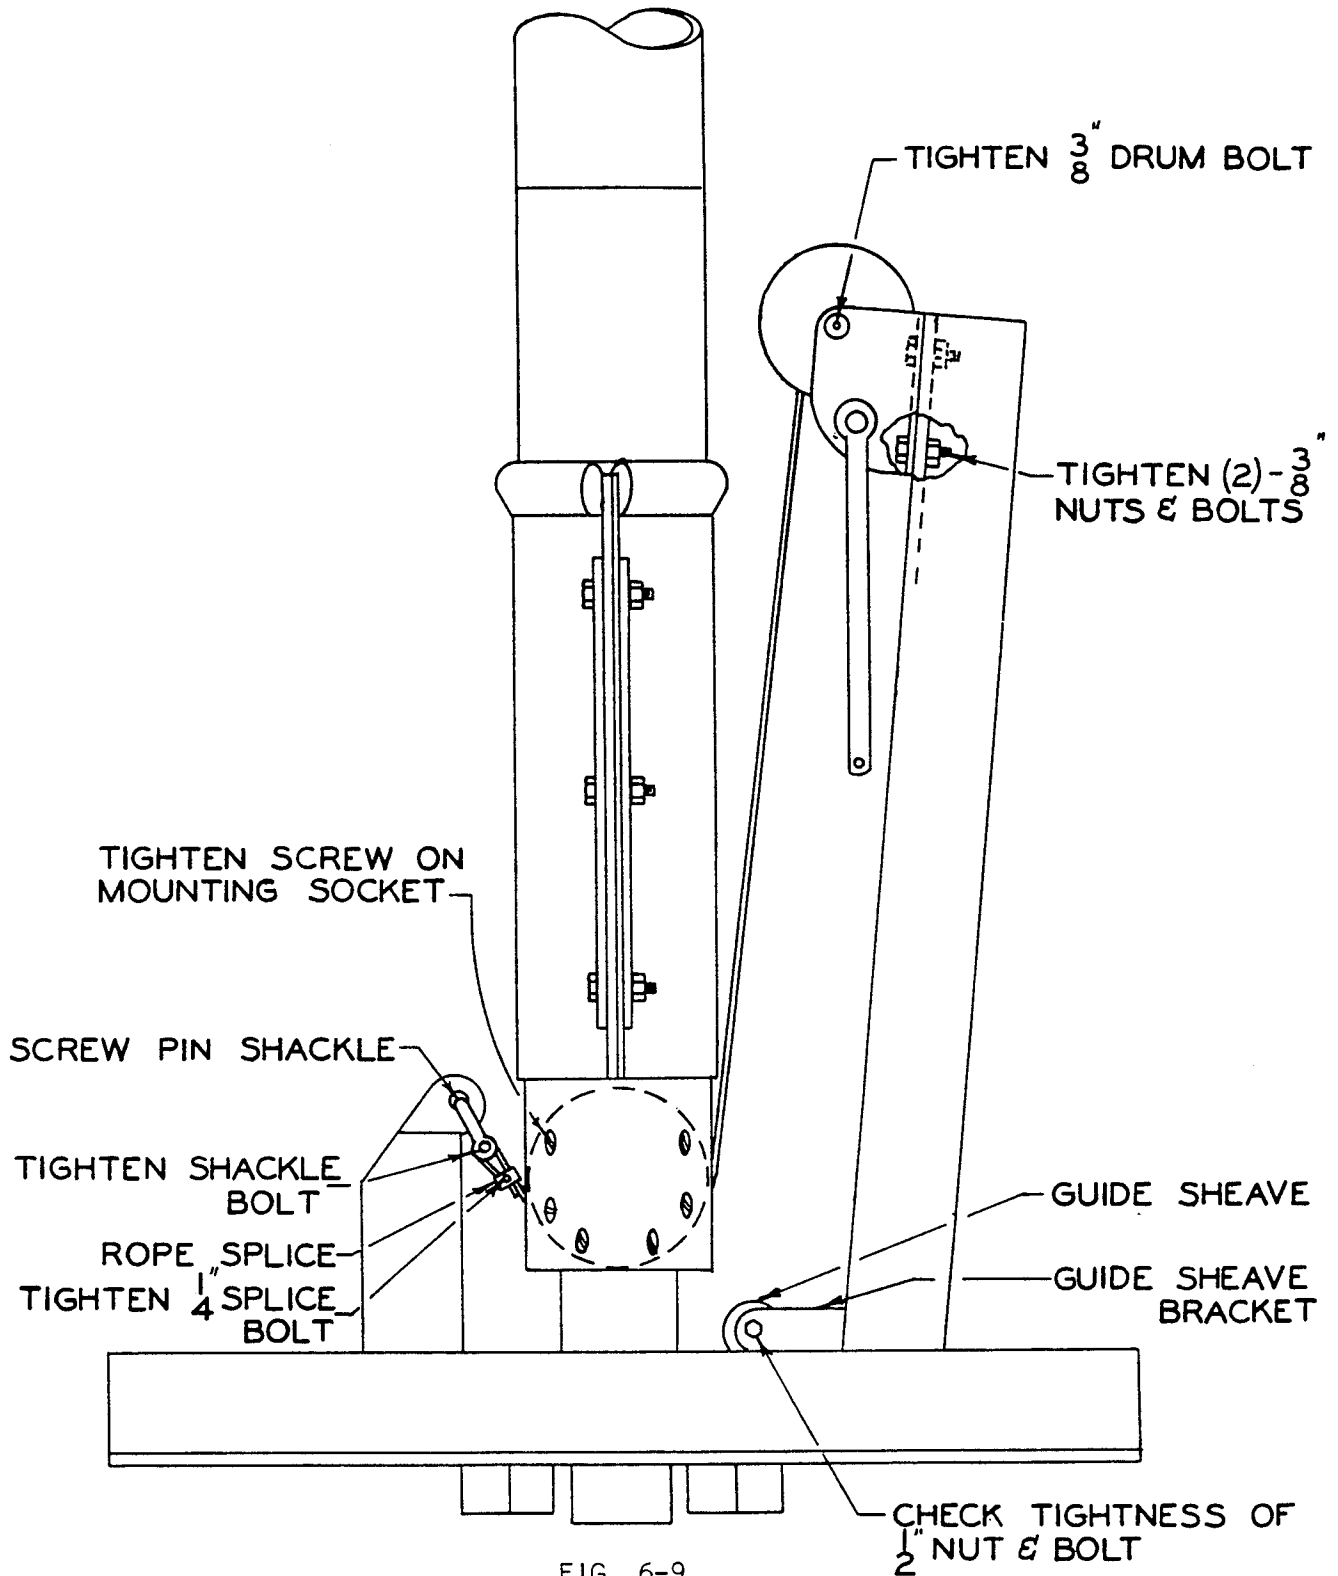

FIG. 6-9
With the MS-20 structure in the raised position (the three 1/2" sleeve bolts must be tightened and the alignment pin must be in place) tighten the (2) 3/8" nuts and bolts that secure the winch to the MS-20 base. Also check tightness of the 3/8" drum bolt on the winch itself (See Fig. 6-9). Use two 9/16" combination wrenches for tightening the 3/8" nuts and bolts. Now check tightness of the 1/2" guide sheave nut and bolt. Now tighten the shackle bolt on the screw pin shackle which attaches the winch rope to the MS-20 base. Use a pliers to tighten the shackle bolt. Also tighten the 1/4" splice bolt on the rope splice. (See Fig. 6-9) Use a 7/16" combination wrench to tighten the 1/4" splice bolt. With a flat blade screw driver check tightness of flat head machine screws in aluminum mounting socket. Tighten if required (See Fig. 6-9)